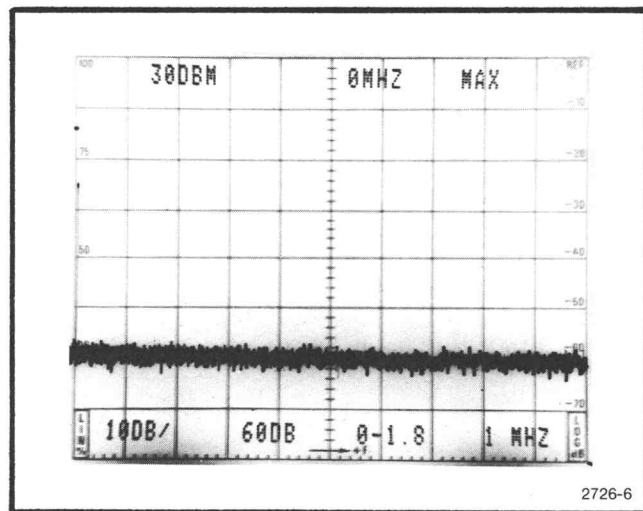

Fig. 2-3. CRT readout for power-up state.
a. Connect the 492 power cord to an appropriate power source (see Power Requirements under Installation instructions) and switch POWER on. Allow three to four minutes for the instrument to warm up and stabilize before proceeding. Note that the crt readout is functioning (see Fig. 2-3).